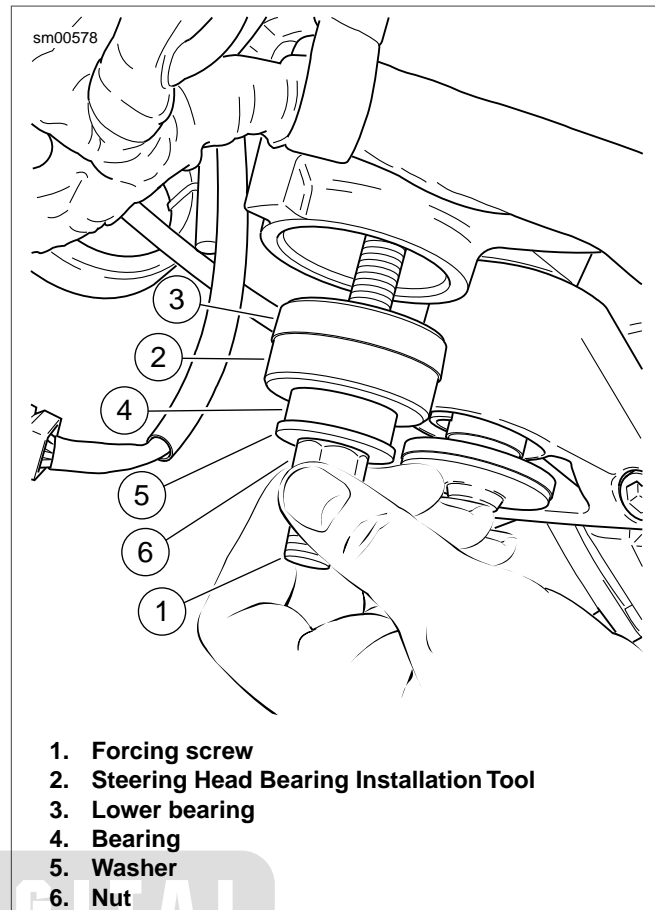
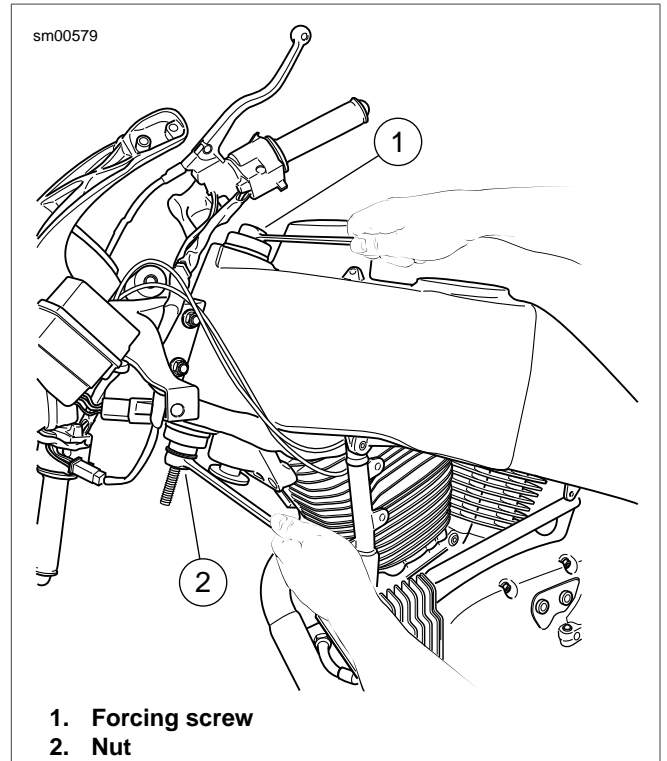

Figure 2-107. Lower Bearing
Figure 2-108. Install Bearings
2. See Figure 2-107. Sparingly apply EXTREME PRESSURE LUBRICANT (Part No. J-23444-A) to the threads of the forcing screw (1) from the steering head bearing race installer, to prolong service life and verify smooth operation. Insert the forcing screw (1) through the STEERING HEAD BEARING INSTALLATION TOOL (Part No. B-45521).
4. Install the bearing (4), washer (5) and nut (6) from the steering head bearing race installer onto the forcing screw (1).
5. Tighten the nut (6) by hand, until the bearing is started into the bore in the steering head.
6. See Figure 2-108. Hold the forcing screw while tightening the nut to draw the bearing into the steering head. Continue tightening until the bearing is fully seated.